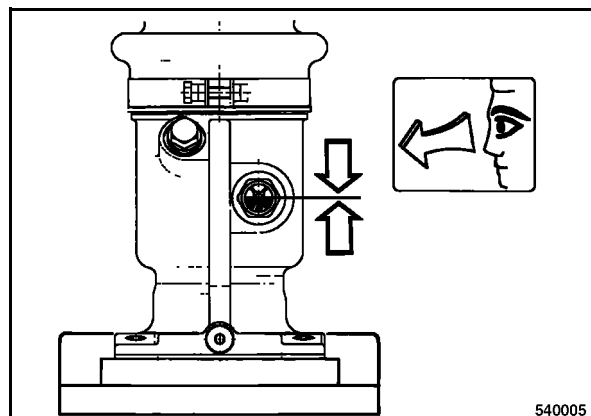

Fig. 42
- Clean the sight glass (Fig. 42).